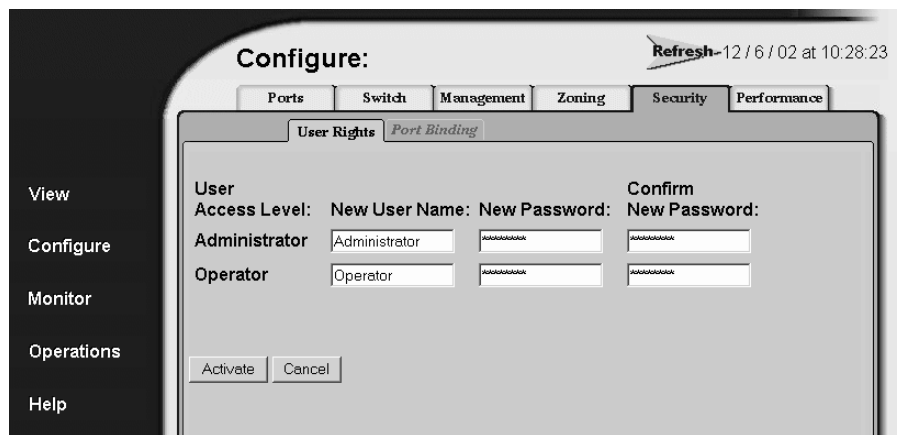

Figure 14: Configuring user IDs
2. Choose the **Security** tab and the **User Rights** tab. The **User Rights** tab view displays (Figure 14) showing the Administrator and Operator user access levels.
2. Choose the **Security** tab and the **Port Binding** tab. The **Port Binding** tab view displays (Figure 14).